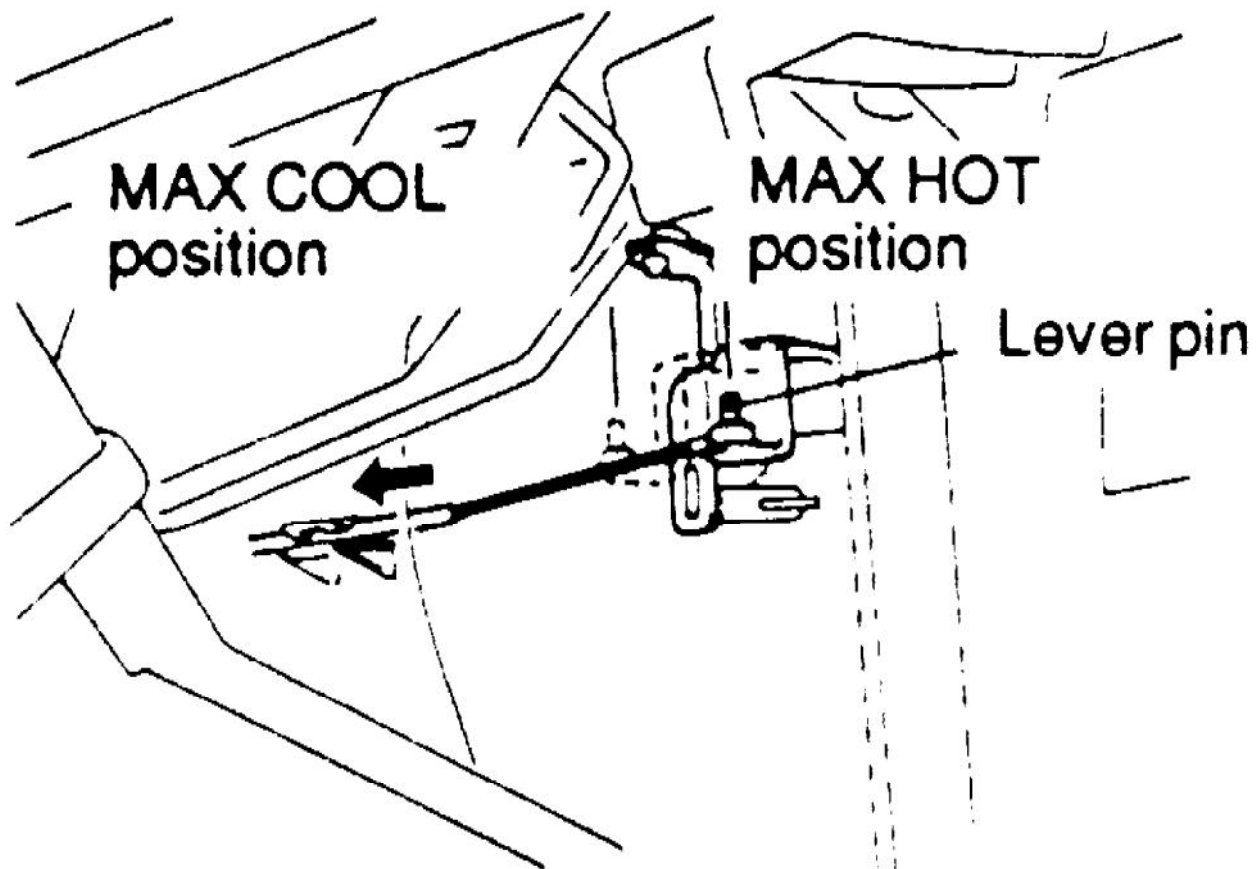

Fig. 17 Heater Control Unit Installation
- b. Set air mix damper lever at top of heater unit to "MAX HOT" position, then install cable to lever pin, **Fig. 17**.
- c. Push outer cable in direction of arrow as shown in **Fig. 17**, ensure there is no looseness in cable, then secure it with clip.